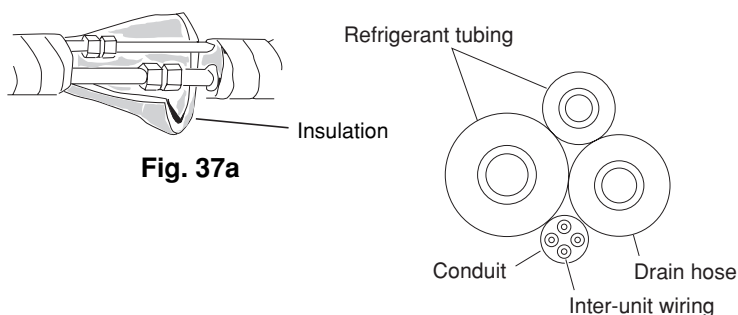

Fig. 37b
- (5) Assemble the refrigerant tubing, drain hose, and conduit (including inter-unit wiring) as shown in Fig. 37b.